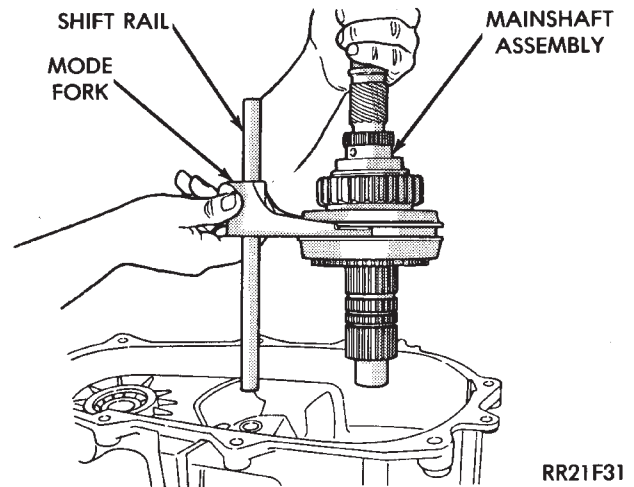
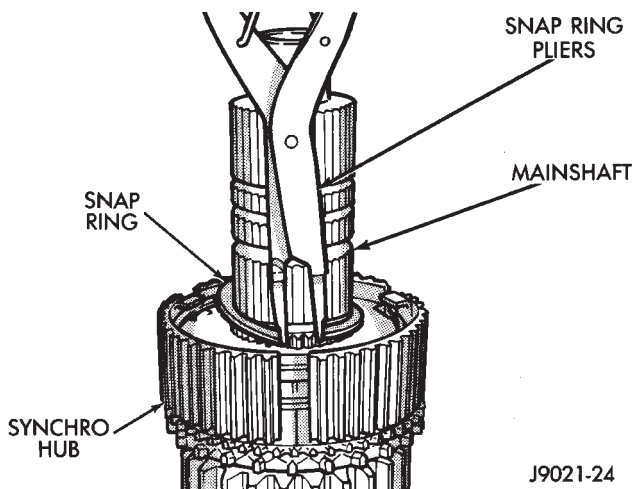

Fig. 52 Installing Mainshaft And Mode Fork Assembly
Fig. 51 Installing Synchro Hub Snap Ring
- (32) Install new synchro hub snap ring (Fig. 51).
- (33) Install sleeve on synchro hub. Be sure sleeve is installed with beveled spline ends facing stop ring.
- (34) Install new pads on mode fork and install shift rail in fork.
- (35) Engage mode fork in synchro sleeve (Fig. 52).
- (36) Install mode fork-mainshaft assembly in case (Fig. 52). Be sure the mode fork rail is seated in both range fork bushings.